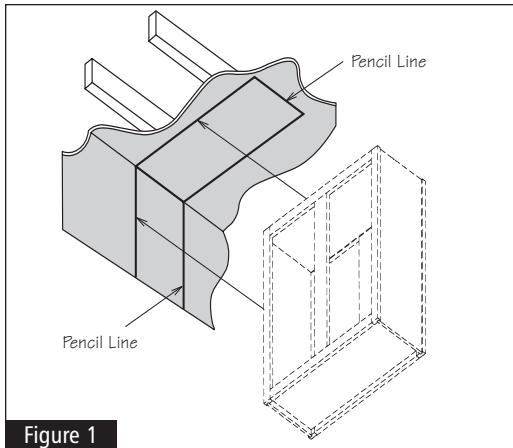

Figure 1
- 1 Begin by measuring the length and width of your Peninsula Wall Cabinet(s). Measure the width from the front frame. Use those measurements to create an outline (in pencil) on the ceiling where the cabinet will be installed. If the side of the cabinet will also be affixed to a wall, draw vertical marks outlining that location as well. Make sure your lines are square and/or plumb relative to the wall/cabinet to which your Peninsula Wall Cabinet will be connected. See Figure 1.